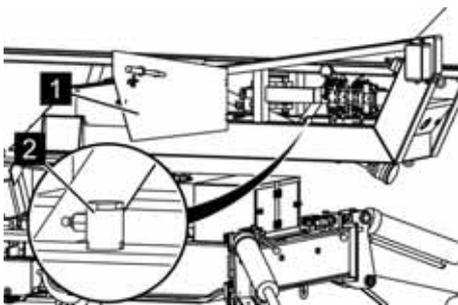

Fig. 132: Slide coupling
9. ▶ Put the slide coupling (Fig. 132/2) back onto the attachment and close the door (Fig. 132/1).